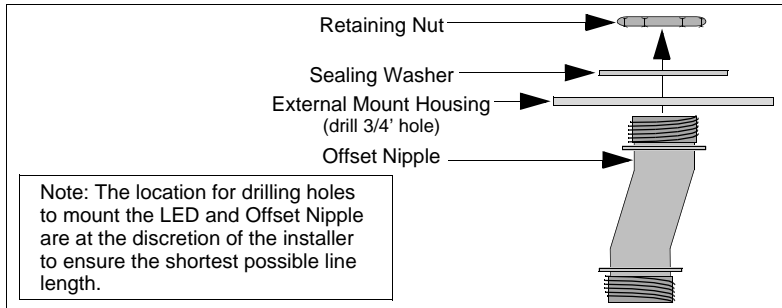

Figure 3. External Mount Kit Installation
2. Remove the four screws that secure the cover to the external mount kit (refer to Figure 3).
9. Install one end of the offset nipple through the hole drilled in Step 8. Install a sealing washer and hex nut onto the offset nipple (Figure 3).